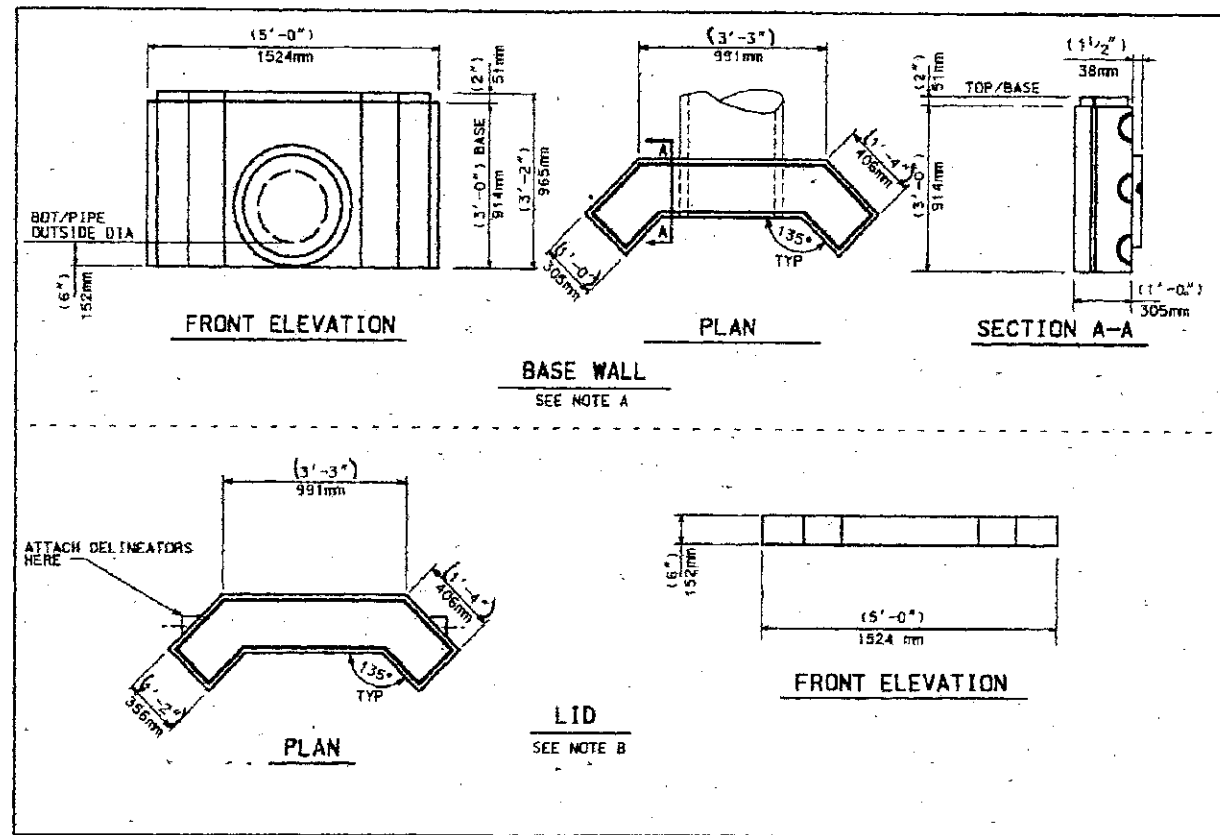

FIG. 1 Base Wall and Lid
6.1.1 Base wall form is hollow with opening at the top to accept fill material and designed to accept either cap or riser section. Base wall has opening in the center for pipe and adaptors as needed. Pipe is secured to base wall form with galvanized screws. (See Fig. 1.)
6.1.3 Cap fits on top of base wall or riser and is secured with galvanized screws. (See Fig. 1.)
6.2.3.1 Dimensions—See Figs. 1 and 2.